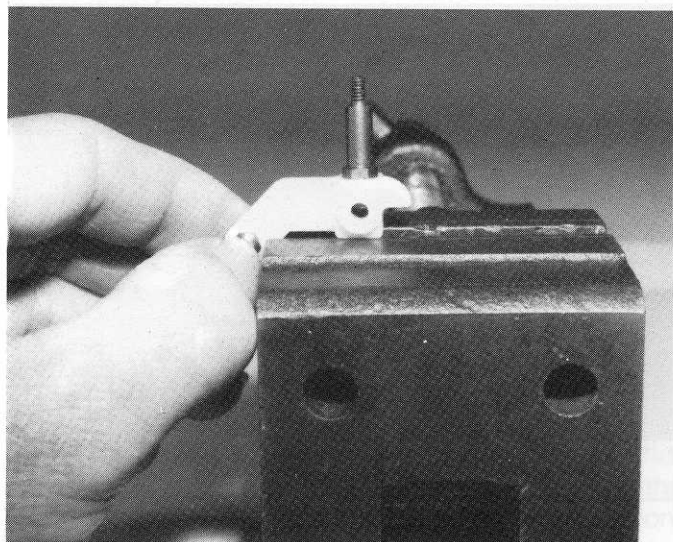

Fig. 4
□ **Fig. 4** You'll notice that the hex part of the axle does not go all the way into the steering block. That's O.K. Just make sure the hole in the axle is lined up with the hole in the steering block.